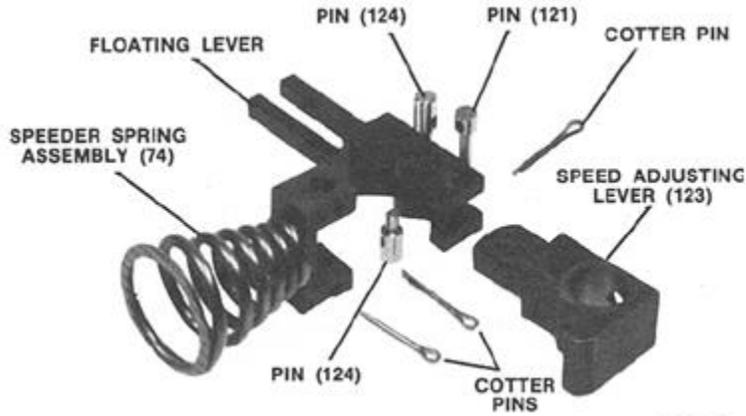
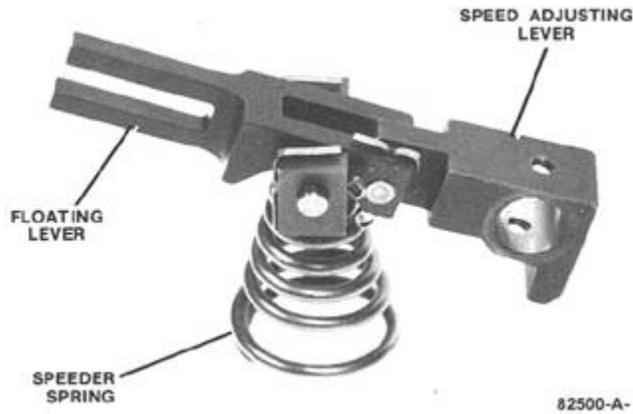

Figure 5-4. Speeder Spring Parts Layout
Figure 5-5. Speeder Spring Subassembly
3. Assemble floating lever and speed adjusting lever as shown in Figure 5-4 Parts Layout and Figure 5-5 Subassembly.
Speeder spring assembly is shown in Figures 5-4 and 5-5 for reference only. See step (32) for speeder spring assembly.